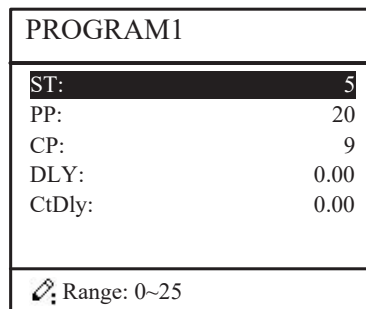

Figure 2-5 Multi-step program setting page
Step 4 Click , enter multi-step program setting page, as shown in Figure 2-5.